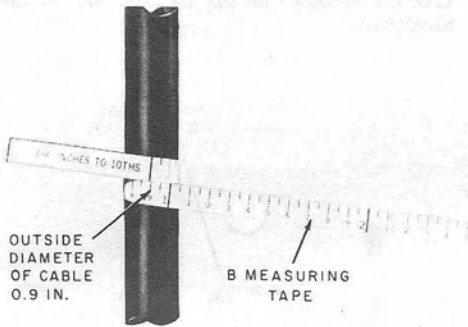

Fig. 4—B Measuring Tape
- (b) **B Measuring Tape (Fig. 4):** Used to determine the diameter of the cable.